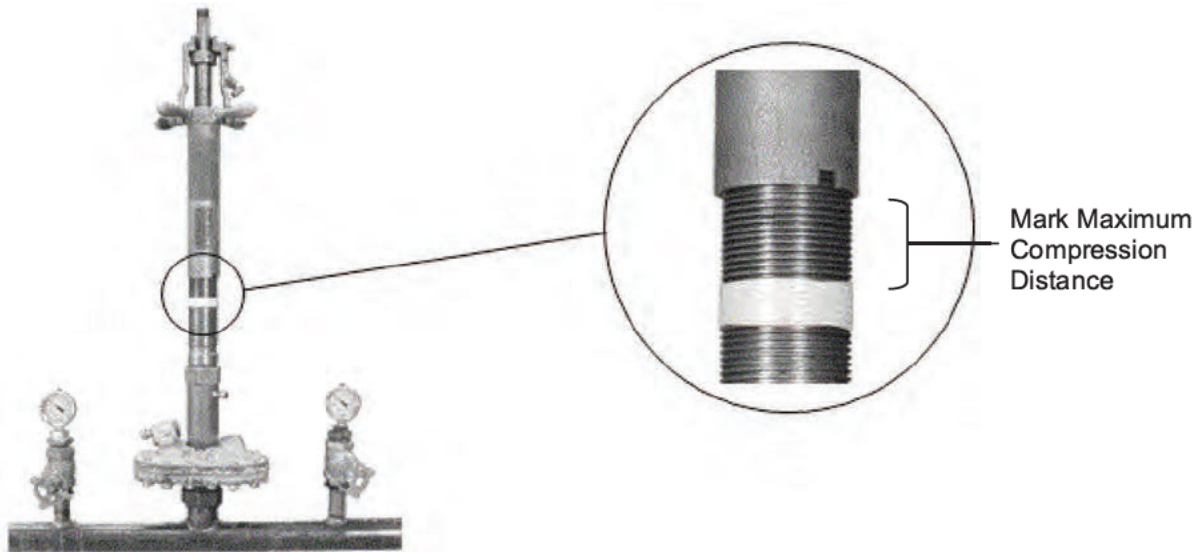

Figure 11. Marking Maximum Compression Distance
- 5.19 Measure AND mark maximum compression distance on body of drilling machine from bottom of feed tube. (See Table 12 for maximum compression distance and Figure 11 for an illustration.)